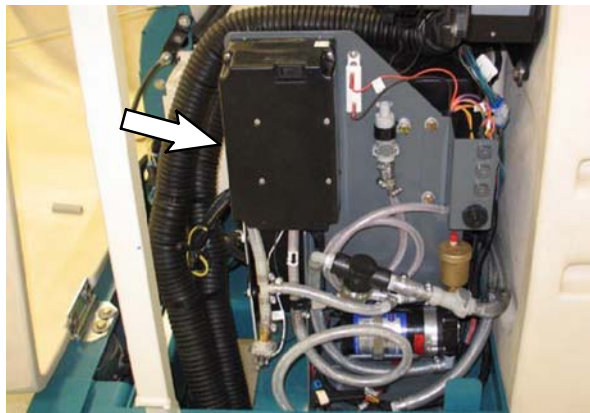

FIG. 10
20. Set the *ec-H2O* assembly into the machine and tighten the three M6 X 1.25 SEMS screws installed in the previous step. Refer to Fig. 10.